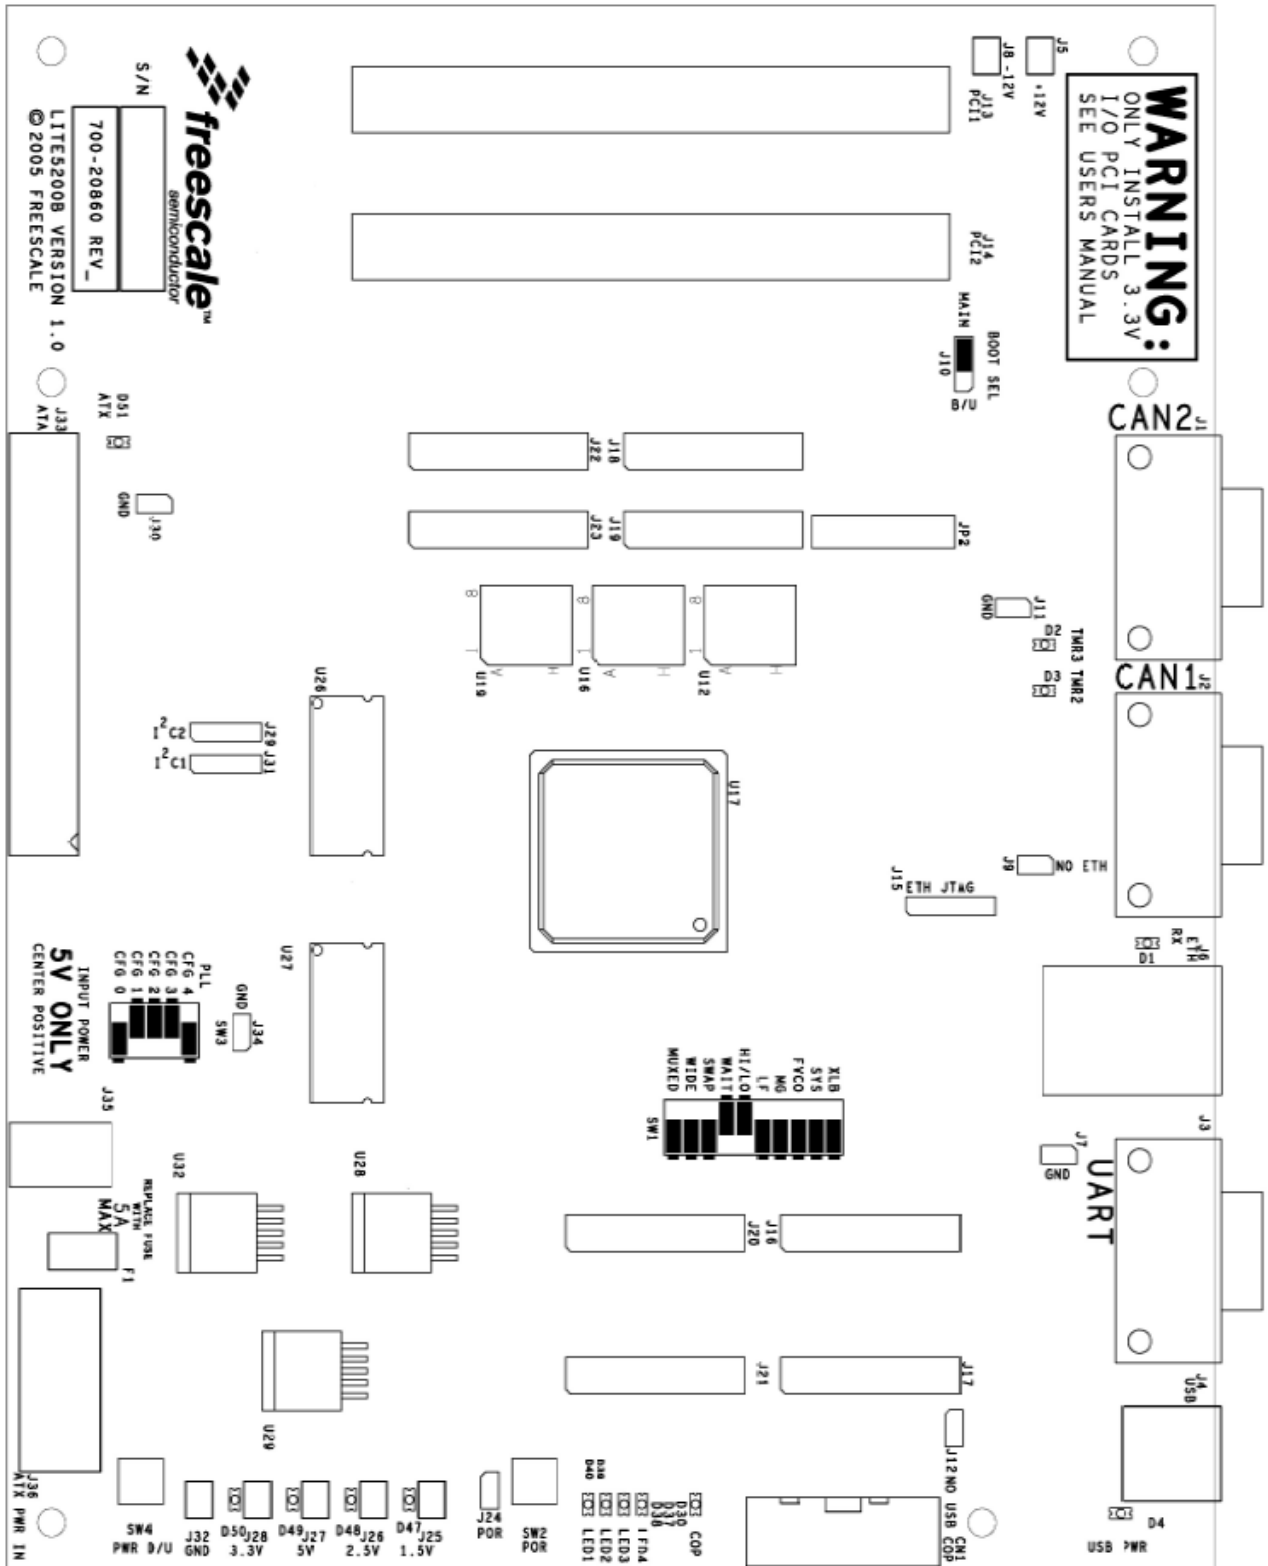

Figure 3-1. Quick Start-Connectors
1. Make sure all Jumpers are set to the positions as indicated in Figure 3-1. No other Jumpers should be placed on the board.